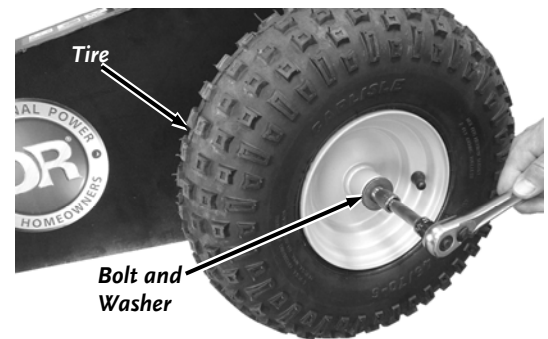

Figure 38
1. With the Stump Grinder on the ground, remove the Bolt, Lock Washer and Large Flat Washer from the Axle with a 1/2" Wrench (**Figure 38**).